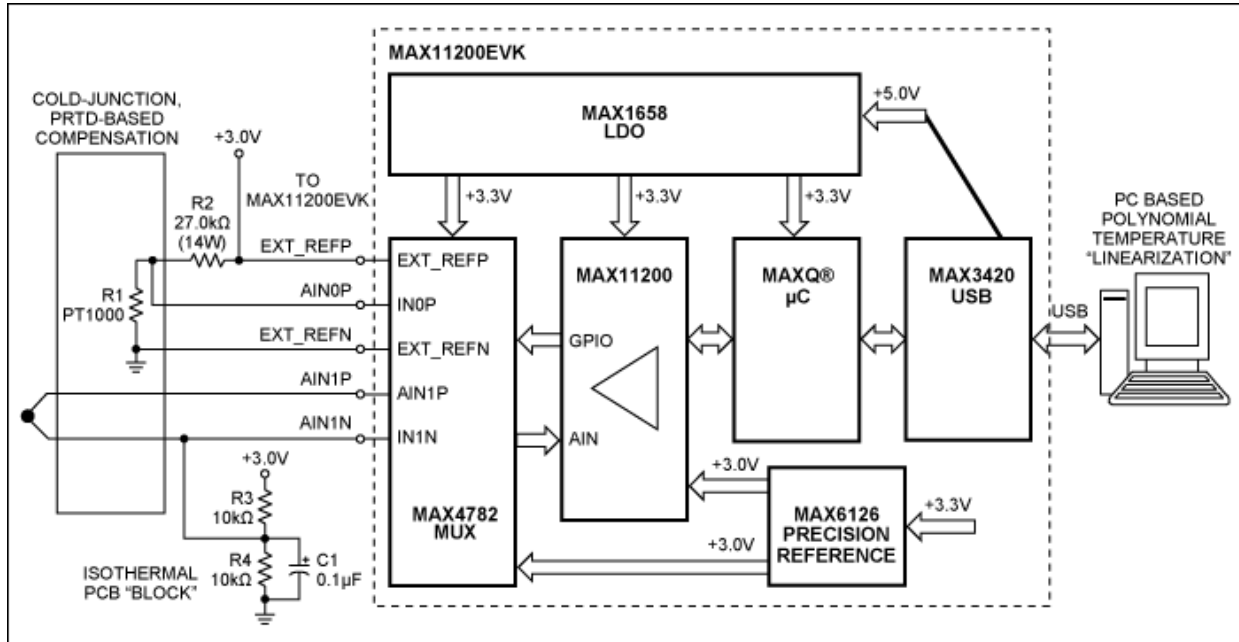

Figure 15. Simplified thermocouple DAS.
As an alternative to the MAX1402, the MAX1120/MAX11210 provide 24-bit resolution and support the high-performance, demanding applications. Figure 15 is a simplified schematic showing a precision DAS that uses the 24-bit delta-sigma ADC MAX11200 evaluation (EV) kit and allows thermocouple temperature measurements. Here, R1 - PT1000 (PTS 1206, 1000 Ω) is used for absolute temperature measurement of the cold junction. This solution allows the cold junction temperature to be measured with $\pm 0.30^\circ\text{C}$ accuracy, or better.¹